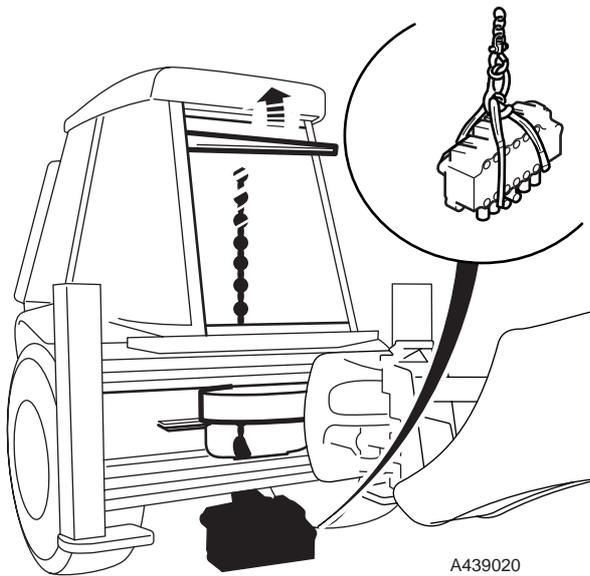

Fig 185.
- 9 Open the rear window. Wrap a suitable sling around the valve, make sure that the weight of the valve is supported by the sling, ⇒ Fig 185. \(□ E-222\).